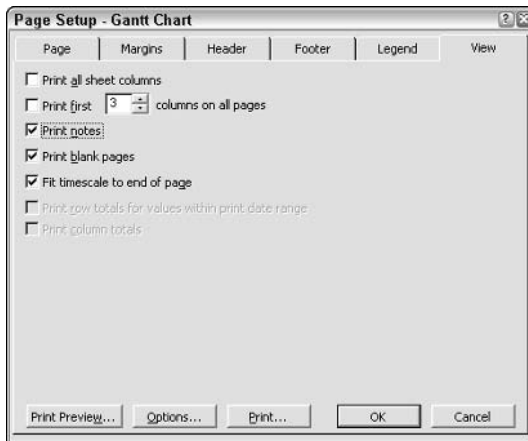

Figure 4-18: Notes appears on a separate page after printing your Gantt Chart when you check the Print notes option.
2. Click the View tab to display the settings that are shown in Figure 4-18.